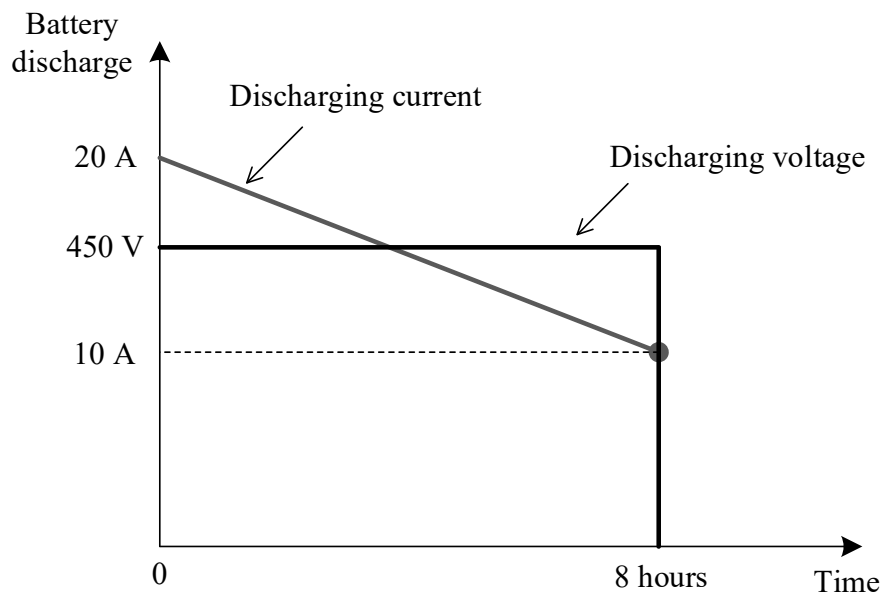

Fig. Q3d
- 3) Based on Fig. Q3d, calculate the coulometric capacity of the battery in electric vehicles, assuming that the battery voltage keeps constant at 450 V. (2 marks)